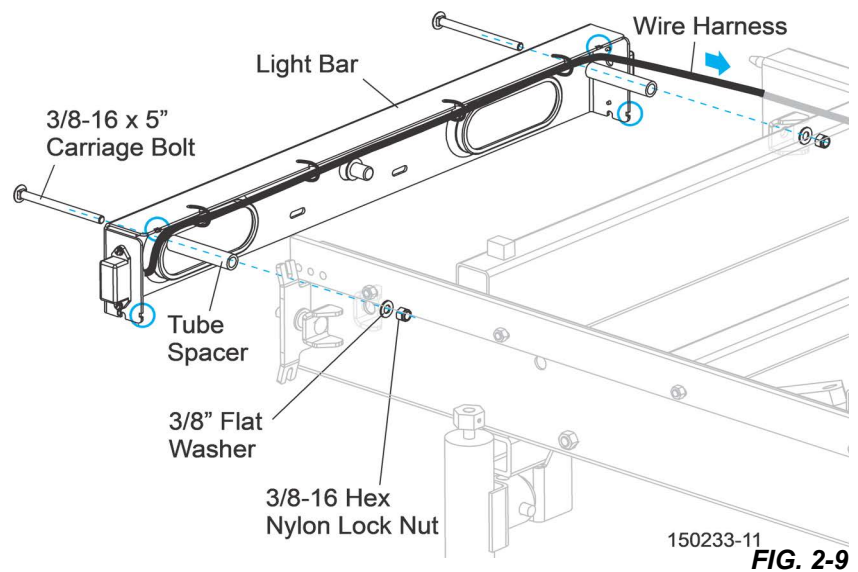

FIG. 2-9
12. Install the front jack assembly to the front bed section as shown in Fig. 2-9.